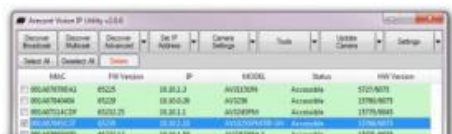

Figure 1: Double click via AV IP Utility
1. To control the remote focus via the web interface, double click the camera within the AV IP Utility (Figure 1) or open your preferred web browser and type the camera's IP address (Fig 2).